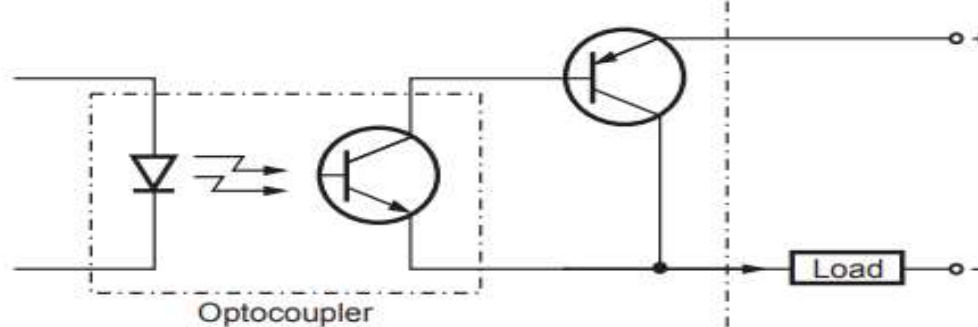

Fig. 4.11.2 Transistor output with current sourcing
- Transistor output with current sourcing is shown in Fig. 4.11.2. An optoisolator provides isolation between PLC and external circuit.